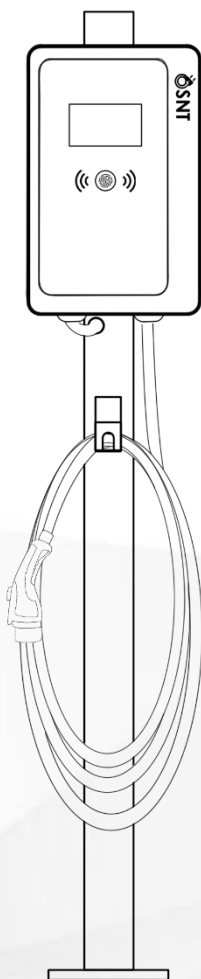

Fig.9
- c. After installation, the effect is as follow: Fig.9